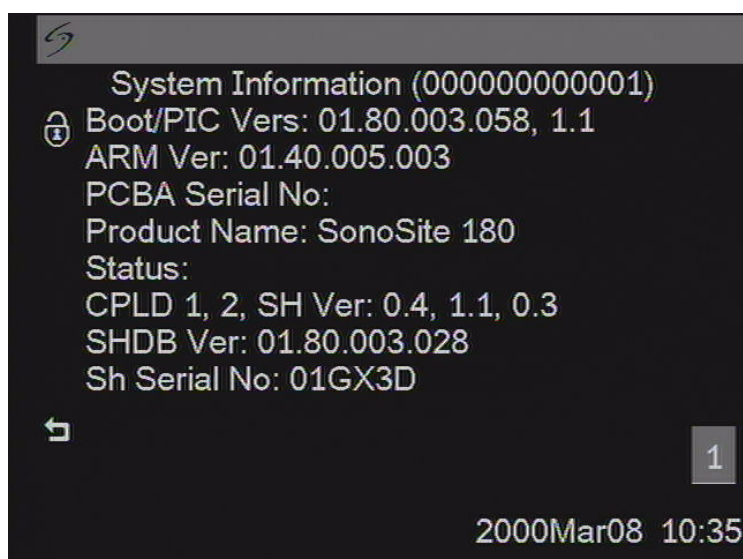

Figure 4.3 System Information Screen
2. Press and release **i**. The system information screen displays (Figure 4.3).